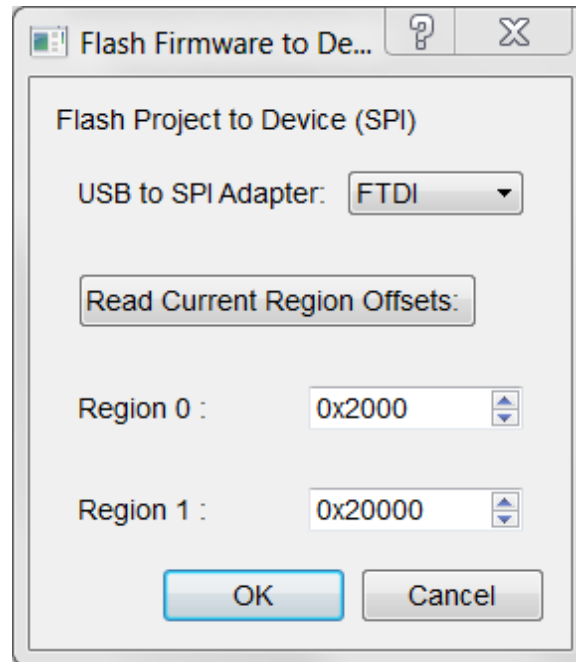

Figure 5. Load Application Firmware Window
- Click the Read Current Region Offsets button to automatically obtain correct offsets (optional), as shown in Figure 5.